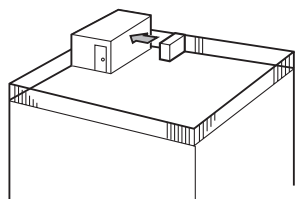

Fig. 2-4
- (1) Face the air outlet towards the nearest available wall about 50 cm away from the wall. (Fig. 2-4)